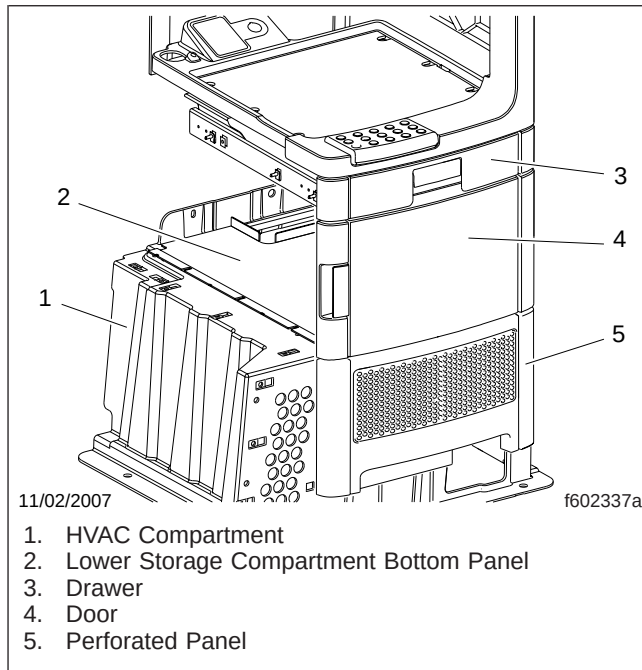

Fig. 1, Sleeper Cabinet Stack
4. Open the lower storage compartment door, and remove the panel on the bottom. See Fig. 1.